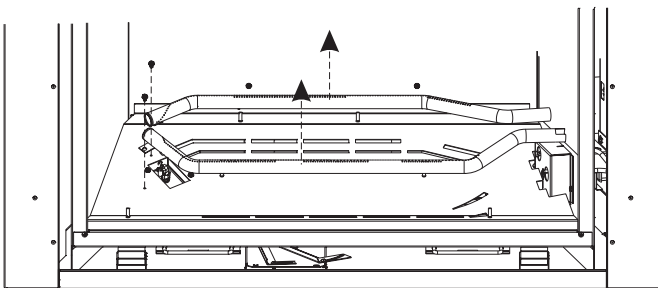

Figure 2
3. Remove front and rear burners by removing screws on left and pulling out towards left side (Figure 2).